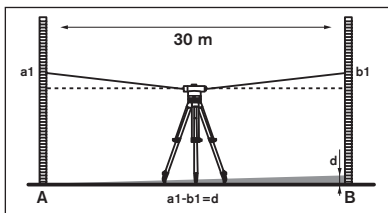

Fig.10
1. Checking should be done at a distance of 30m. Place the instrument in the center of this distance, put 2 leveling rod at the both end of measuring distance A and B separately. (see fig.10)